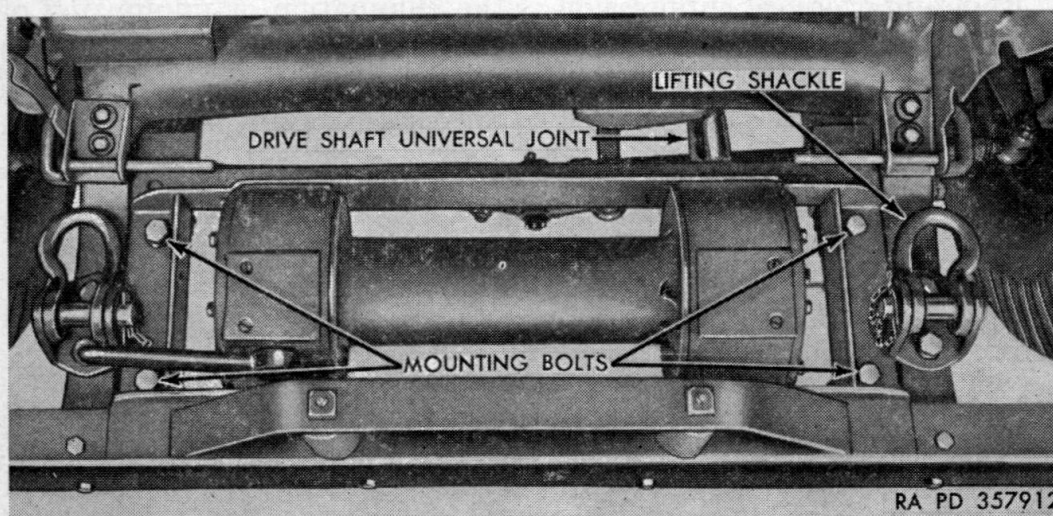

Figure 67. Winch mounting.
*a. WINCH ASSEMBLY REMOVAL.* Remove the radiator guard assembly (par. 240). Remove forward bolts and loosen the rear bolts of the lifting shackles on each frame side member (fig. 67). Turn the shackle brackets 90° outward. Loosen front drive shaft universal joint set screw and remove the four winch frame mounting bolts (fig. 67). The entire winch assembly then can be lifted up and the universal joint slipped off allowing the assembly to be removed.
c. **DRIVE SHAFT REMOVAL** (fig. 67). Loosen the universal set screws from the universal joints of drive shaft or shafts to be removed. Remove the two screws holding the hanger bearing to the bell housing and hanger bearing brace. The hanger bearing then can be dropped down permitting the disengagement of the loosened universal joints.
d. **WINCH ASSEMBLY INSTALLATION.** Place the winch assembly onto the support brackets on the frame engaging the universal joint on the shaft by lining up the shaft key. Fasten the winch frame down with the four mounting screws (fig. 67). The two lifting shackles should be turned 90° forward and the two forward bolts replaced. Tighten all four shackle bolts securely. Tighten the universal joint set screw.